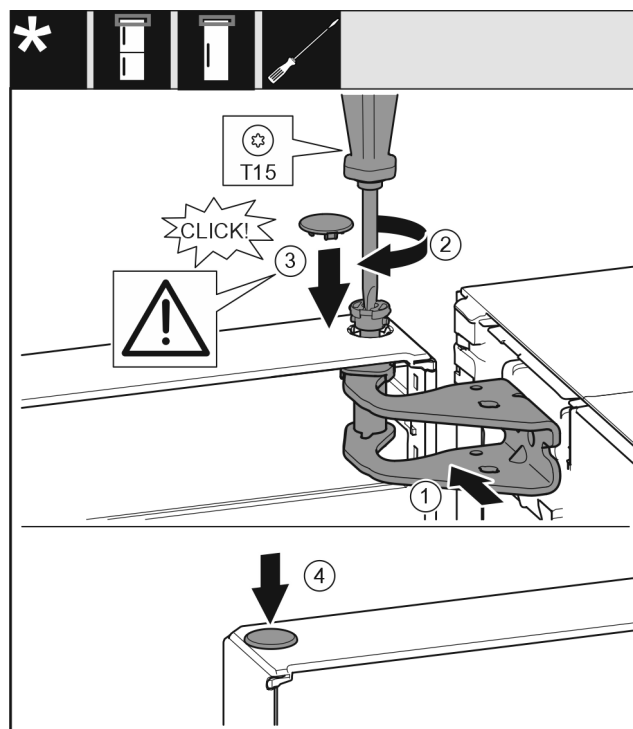

Fig. 24
- ▶ Align the top of the door with opening in the bearing bracket. Fig. 24 (1)
- ▶ Insert the pin Fig. 24 (2) and tighten it with the screwdriver.
- ▶ Mount the safety cover Fig. 24 (3) to protect the door: Insert the safety cover and check whether it is positioned on the door. If so, insert the pin completely.
- ▶ Insert the plug Fig. 24 (4)